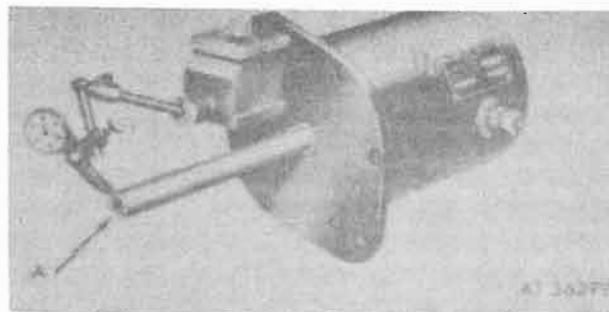

Figure 7-24. Checking end play of armature shaft.
g. Check end play of shaft with dial indicator (fig. 7-24), moving shaft to extreme positions. End play must be between 0.005 and 0.030 inch. If end play is more than 0.030, install additional thrust washers on commutator end of shaft as required. If less than 0.005 replace thrust washer on commutator end of shaft with thinner one.